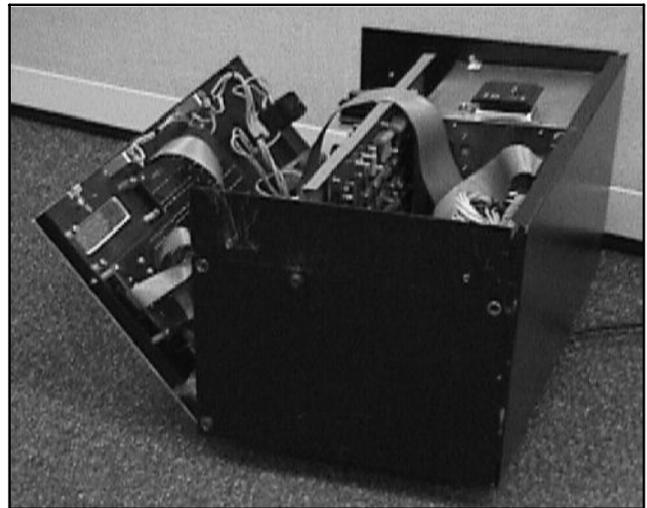

Figure 2 Front Panel Access
- 2.4 Loosen the remaining screws (2) on each side of the controller to allow the panel to tip away from the controller for the display board installation. See Figure 2.